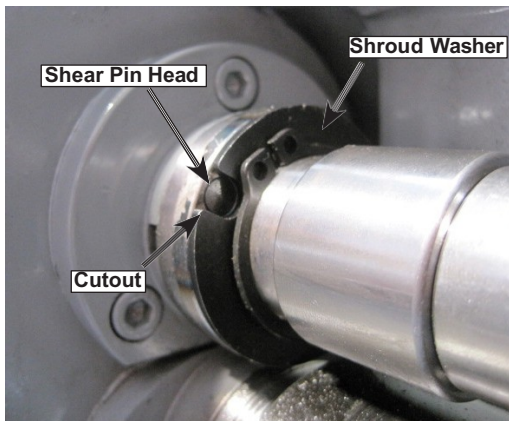

Figure 98. Shroud washer / pin alignment.
3. Rotate the shroud washer so the cutout lines up with the shear pin head, as shown in Figure 98.